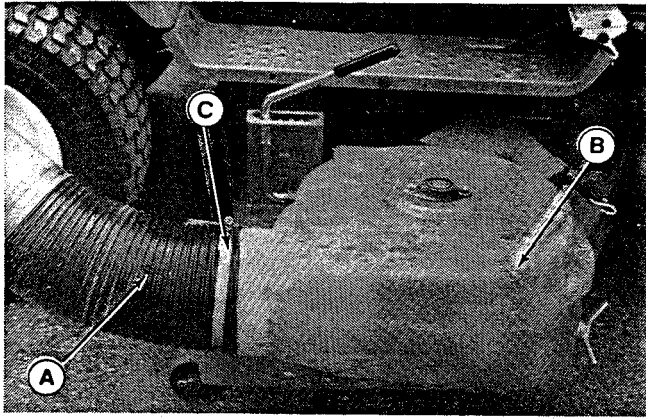

Figure 32.
- Attach hose (A, figure 32) to blower housing (B) with clamp (C) and tighten with a screwdriver, or wrench.